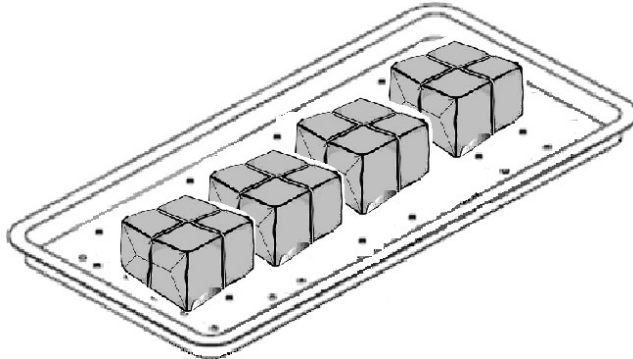

Figure 39
**WARNING:** To perform sterilization for absorbent cotton or wool, please wrap it with a thin towel, covering cloth, linen, or sterilization bag in order to prevent the piping from being blocked as shown in Figure 39.